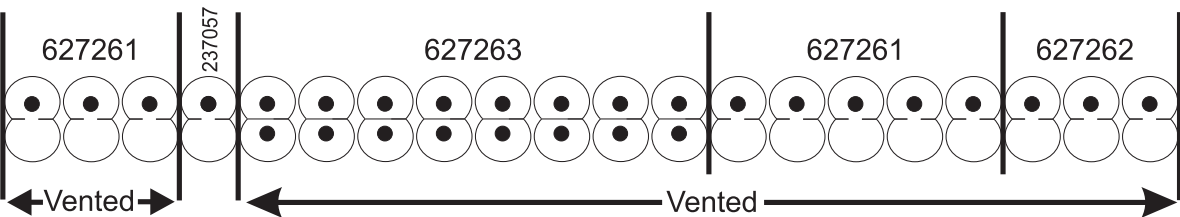

Figure 33 - Cell Configuration and Part Numbers
- 6.1 There are four different types of cell (20 in total) in a Nimbus 4 and Nimbus Professional mattress. The cell configuration is shown in Figure 33 which shows both Nimbus 4 and Nimbus Professional Standard and Narrow mattresses.
- 8.1 Make sure the cell is the correct type for its position in the mattress (Refer to Figure 33).